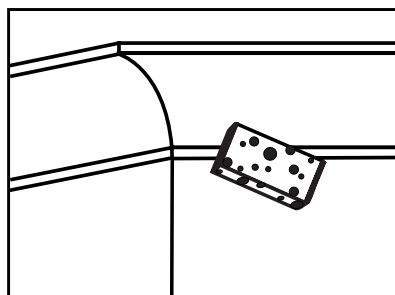

FIGURE 76 Wipe Down
- > Wipe down the cornice with a wet sponge [Figure 76].